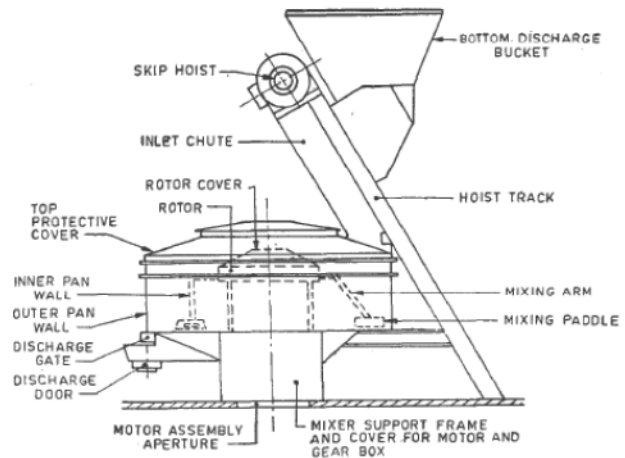

Fig.5.5 TYPICAL PAN TYPE CONCRETE MIXER
2. Vertical axis (Pan mixers)(See Fig.5.5)
Atypical Pan Type mixer is shown in Fig.5.5 Pan mixers, on the other hand, may have either the blades or the pan rotating around the vertical axis.